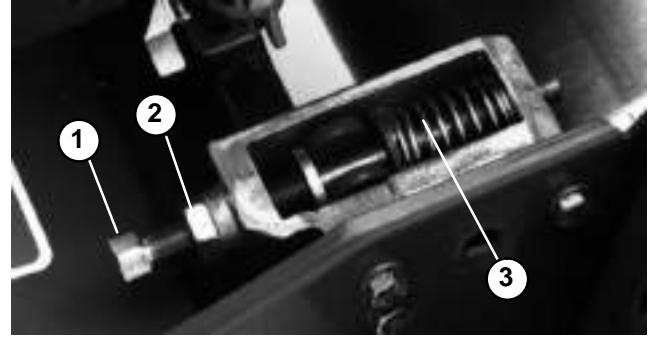

Figure 12
A. On the GR1000, loosen the jam nuts on the bedknife adjusting screws and rotate adjusting screws counterclockwise (Fig. 12).
4. Check for light contact at the other end of the reel using paper and adjust as required. On the **GR1000**, make sure jam nuts on the adjusting screws are tightened upon completion of the adjustment (Fig. 12).